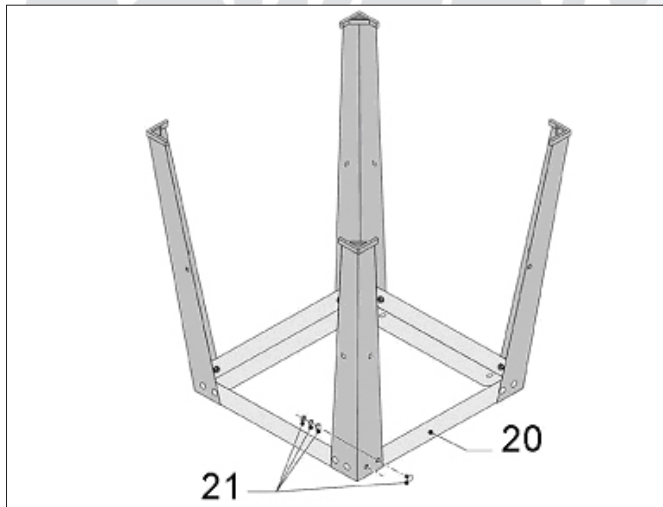

Figure 2
Connect the pairs of legs using the long frame pieces (20) and secure them with screws, washers and nuts (21) as shown in figure 2. The frame is now assembled and joined together with the legs.